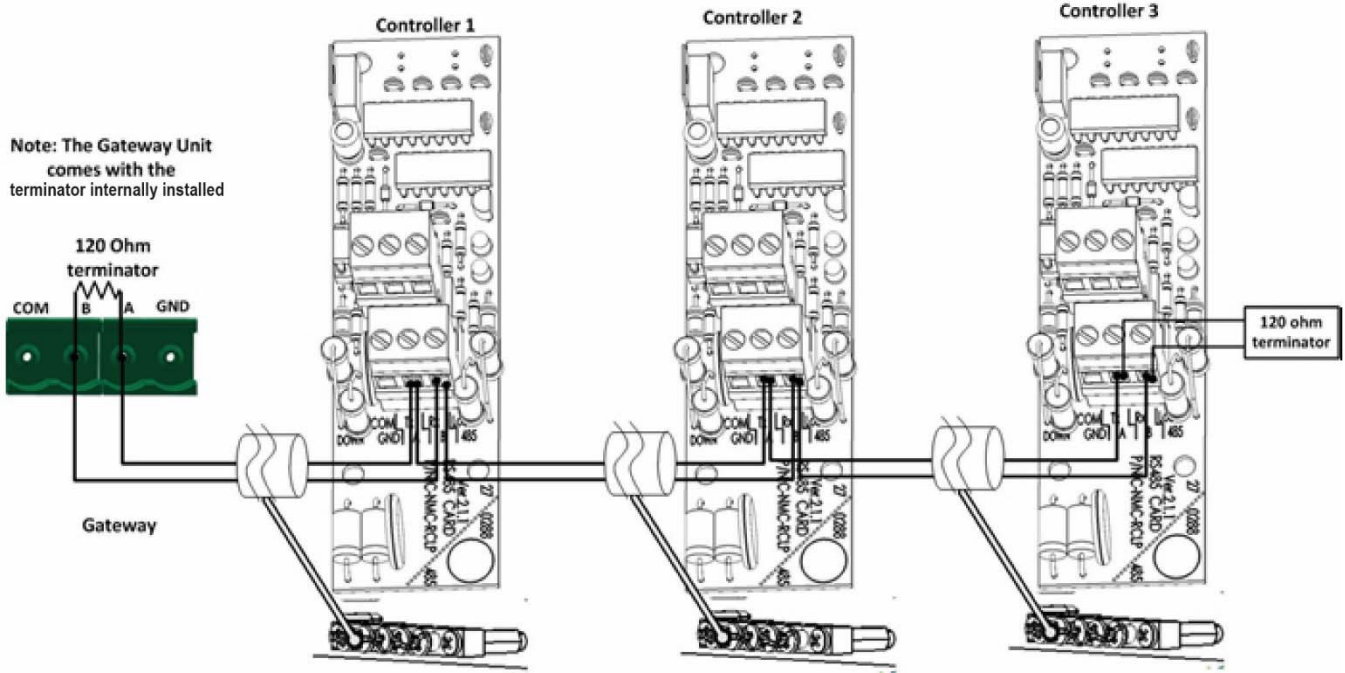

Figure 4
4. Wire the controller communication ports as shown in Figure 4.
Refer to Figure 4: